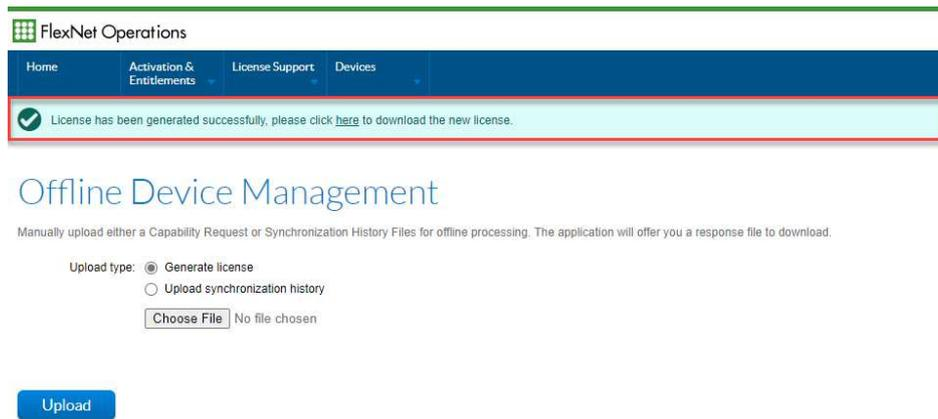

Figure 22. The FNO offline Device Management screen, with a link for downloading the “Capability Response” file.
20. The system will offer the user the ability to download a *Capability Response* file (Figure 22).